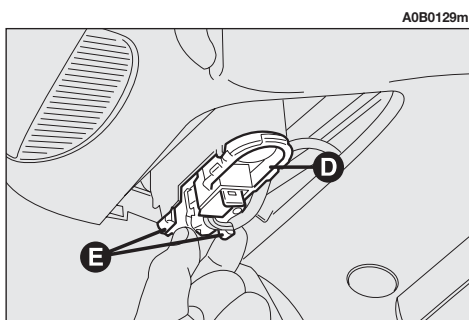

fig. 49
– Remove the bulb holder unit (**D**-**fig. 49**) pressing on the retainer tabs (**E**-**fig. 49**).
– Reinsert the bulb holder unit fitting it correctly between the retainer tabs (**E**-**fig. 49**)